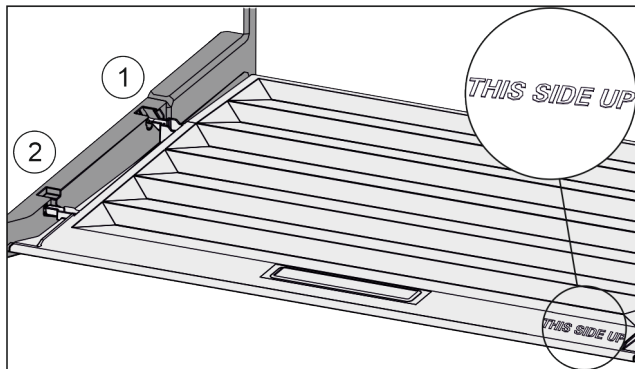

Fig. 86
- ▶ Insert the lip of the cover over the opening of the rear bracket *Fig. 86 (1)* and click into place *Fig. 86 (2)*.